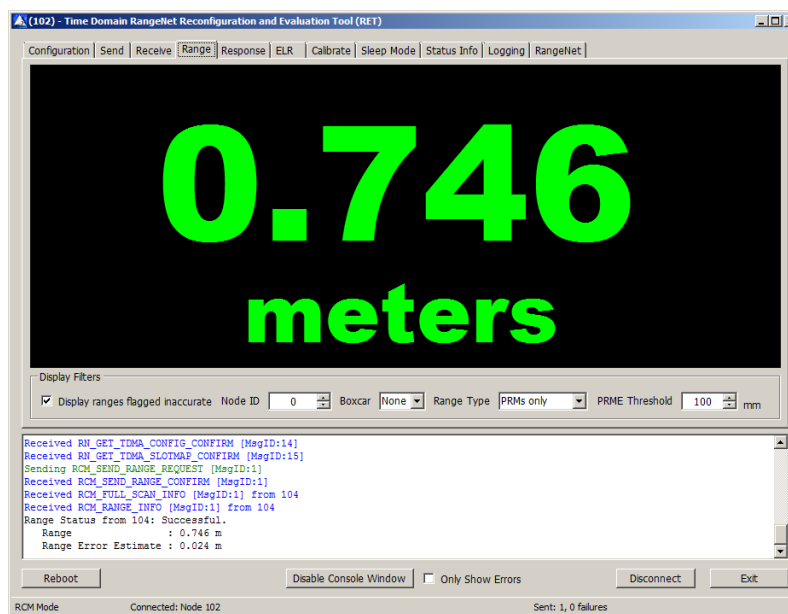

Fig. 12: RangeNet RET Range Tab
- Click **Send**. If the range measurement was successful, you will see a confirmation message in the status window (“Range Status: Successful”). The range measurement will update every second. If, for some reason, the range measurement is consistently unsuccessful (“Range Status: Timeout Error”), then make sure that there is nothing blocking either of the antennas and that the antennas are really both on Port A. Select the Range Tab (**Figure 12**) to view your range measurement. (By default, the measurement is displayed in millimeters. Double-clicking the measurement window will display the measurement in meters, and double-clicking a second time will display it in feet.)